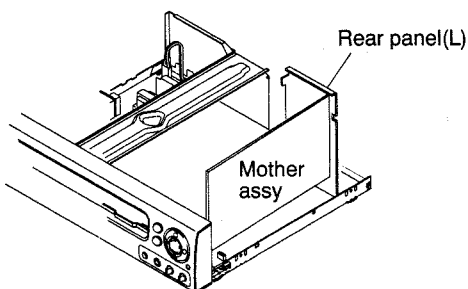

Fig. 4
3. When you slide the rear panel (L) slightly to the rear, you can remove it together with the MOTHER ASSY. You can stand it up within the set as in the figure and diagnose the MOTHER ASSY (Fig 4).